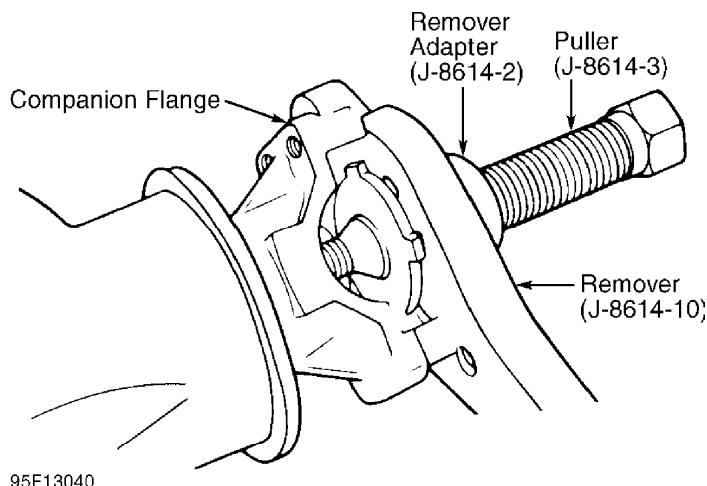

Fig. 2: Removing Companion Flange
2) Using an INCH lb. torque wrench, measure and record pinion bearing preload. Remove pinion nut and washer. Using a puller, remove companion flange. See Fig. 2. Using care not to damage housing, drive seal out of housing with a blunt chisel.